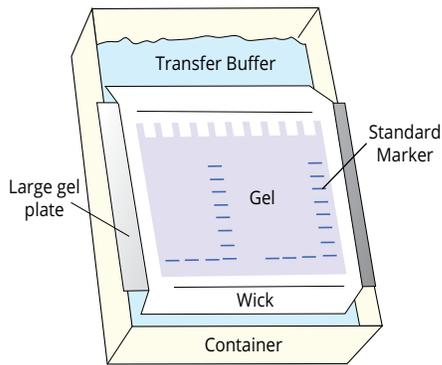

Figure 3: Top view of the blot transfer assembly.
- PLACE** large gel plate on top of a container approximately 16 x 9 x 4 cm (L x W x D). **ADD** transfer buffer to the tray and **PLACE** presoaked wick onto gel plate such that ends are submerged in 2 cm of transfer buffer (see Figure 3).